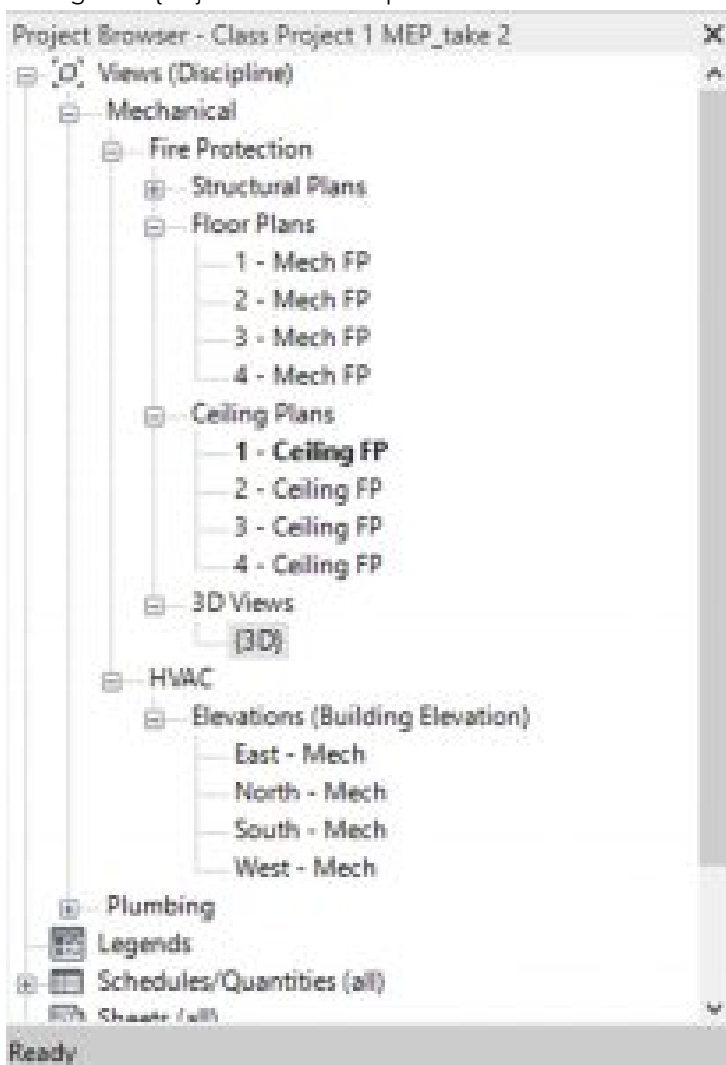

Figure 15.2 Created floor and ceiling plans are shown in the Project Browser
22. Rename the view to replace the Mech with FP as shown in Figure 15.2
24. Rename the plan views by their level #, plan type, mechanical type as shown in Figure 15.2, but do not change the corresponding views